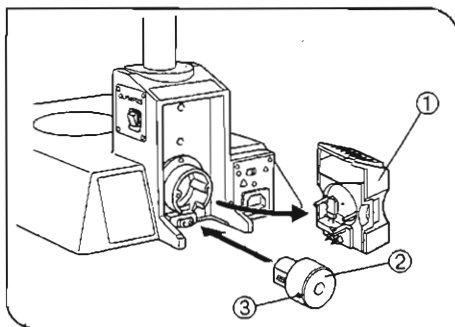

Fig. 22
(Figs. 22 & 23)
1. Remove the lamp socket ① from the illumination base by gently pulling the socket straight out. (Fig. 22)
2. Hold the transmitted light guide adapter ② so that its clamping screw ③ faces sideways, align the guide pin with the guide hole just as with the lamp socket, and push in the adapter until it stops. (Fig. 22)
3. Insert the output end ④ of the flexible light guide into the light guide adapter ② until it stops, and tighten the clamping screw ③ using the Allen screwdriver provided with the microscope body. (Figs. 22 & 23)